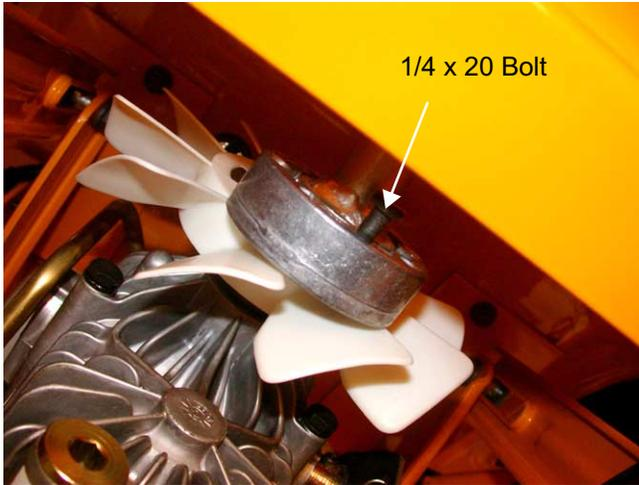

Figure 7.8
- 7.8. Remove the (4) 1/4 x 20 bolts from the drive shaft at the fan assembly. See Figure 7.8.